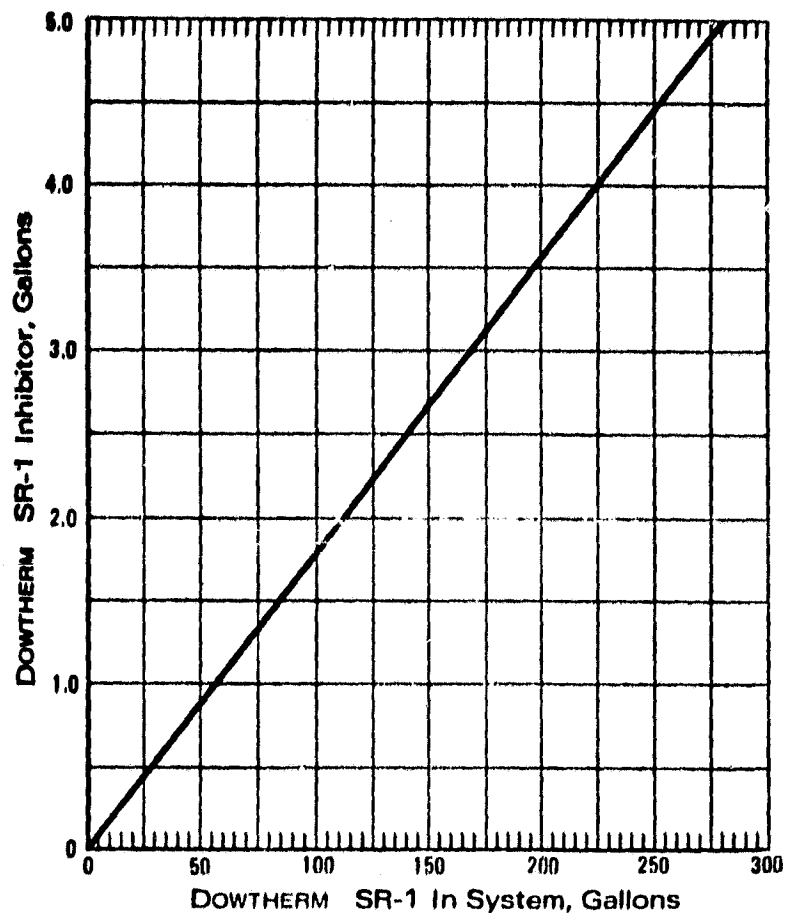

Figure 6-E-1.
- Transfer Fluid (SR-1) - The ethylene glycol and water mixture contains corrosion inhibitors. An annual test of the fluid is necessary to avoid plumbing decay. "Do not add chromate inhibitors to system". Using a standard pH test kit, dip a short piece of test paper in a small amount of fluid drawn from drain and fill valve #4 in ETM. Observe the color of the moistened portion and compare to color chart with kit. The desired transfer fluid pH is 8 or higher. If the pH is less than 8 acids are forming in the fluid. The dwelling owner should call the solar system service man to add inhibitor to system. Use Figure 6-E-1 to determine the correct quantity of inhibitor to be added. After system operation for 30 minutes recheck pH level for proper value.